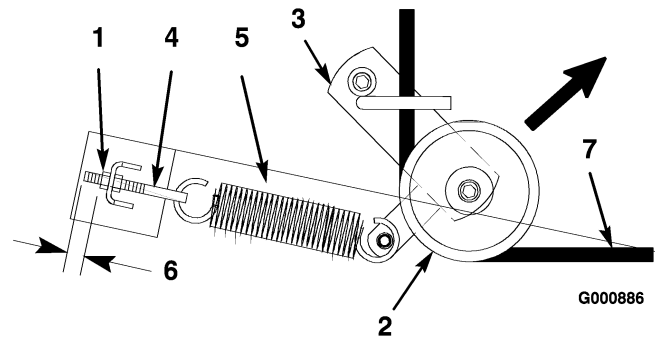
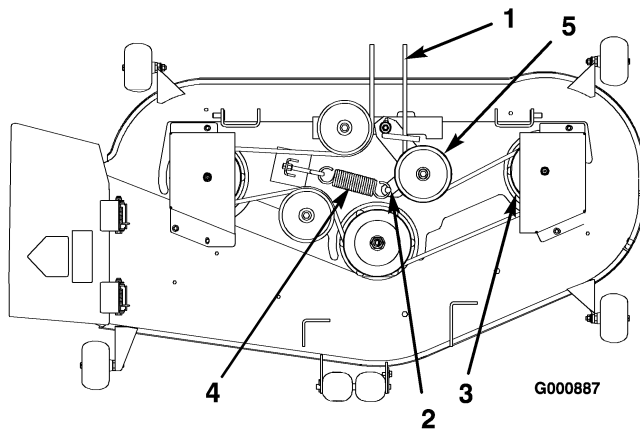

Figure 50
Figure 51
4. Pull the idler pulley in the direction shown in Figure 50 and roll the belt off of the pulleys.
5. Route the new belt through the idler arm and around the idler pulley (Figure 50).
6. Pull the idler pulley in the direction shown in Figure 50 and route the belt onto the other pulleys (Figure 51).
Note: Check to ensure that the length of exposed thread on the spring eye bolt is 1/8 in. (3 mm) (Figure 50).